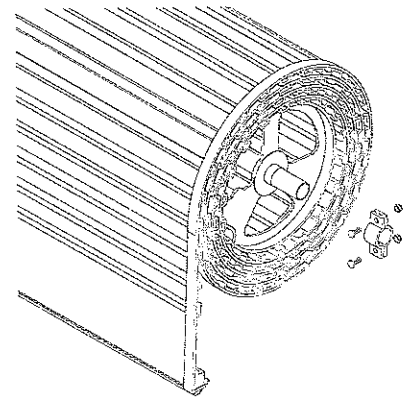

Fig.1
1. Fit anti-coning collar TIGHT TO SHAFT against drum at opposite end of curtain to the motor using nuts and bolts supplied in kit as shown in Fig.1.